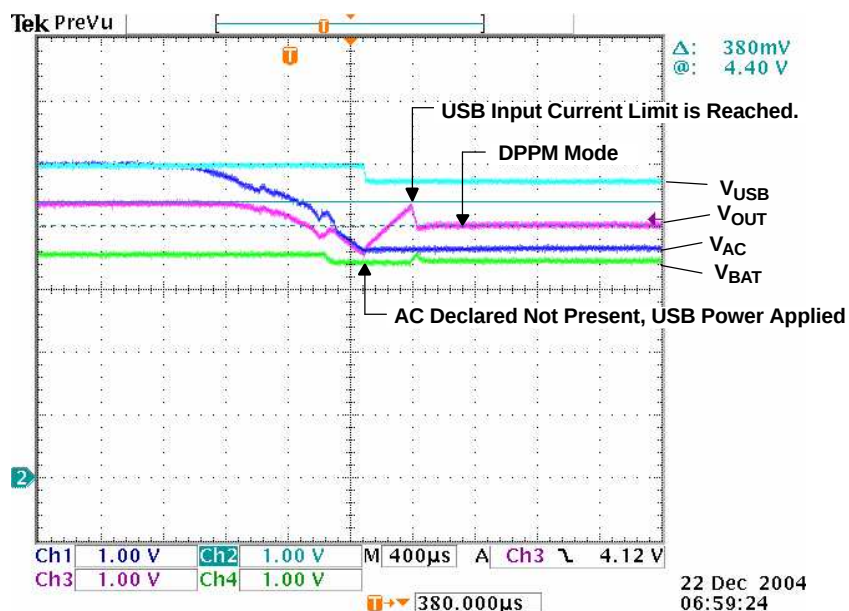

Figure 7. Remove AC – PWR XFER to USB
Figure 7 illustrates when AC is removed, power transfers to USB; PSEL = H (AC primary source); channel 1 (CH1) $V_{AC} = 5.4\text{ V}$; channel 2 (CH2) $V_{(USB)} = 5\text{ V}$; channel 3 (CH3) V_{OUT} ; output current, $I_{OUT} = 0.25\text{ A}$; channel 4 (CH4) $V_{BAT} = 3.5\text{ V}$; and $I_{(PGM-CHG)} = 1\text{ A}$. The power transfer from AC to USB only takes place after the primary source (AC) is considered bad (too low, $V_{AC} \leq V_{BAT} + 125\text{ mV}$) indicated by the $\overline{ACPG}$ FET turning off (open drain not shown). Thus, the output drops down to the battery voltage before the USB source is connected (6th div). The output starts to recover when the USB FET starts to limit the input current (7th div) and the output drops to the DPPM voltage threshold.